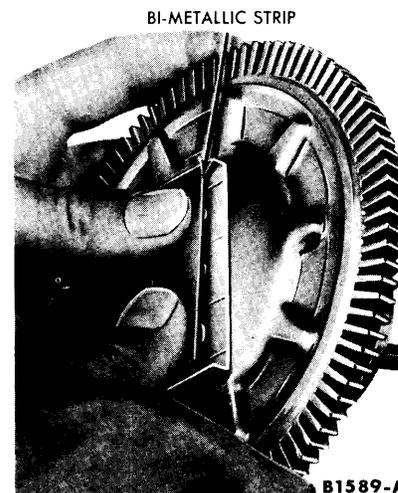

FIG. 5—Fan Drive Assembly
2. Remove the bi-metallic strip (Fig. 5) by pushing one end of the